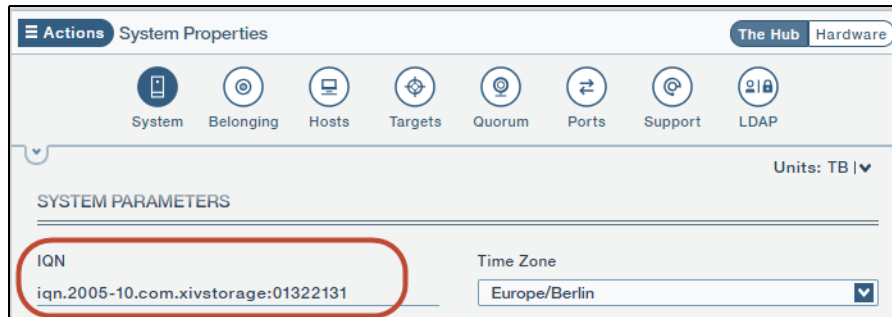

Figure 2-15 Retrieving the iSCSI name (IQN)
3. Click in the circle that represents the system from (see Figure 2-15) to display the System Properties. Scroll down in the System Properties to find the iSCSI name under System Parameters.